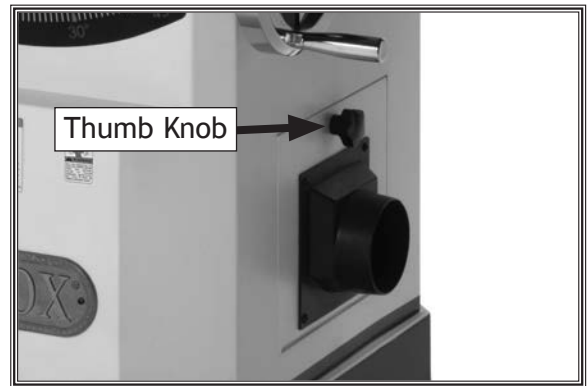

Figure 14. Dust port installed.
5. Insert the lip of the lower part of the dust port into the cabinet and tighten the thumb knob to secure (see **Figure 14**).